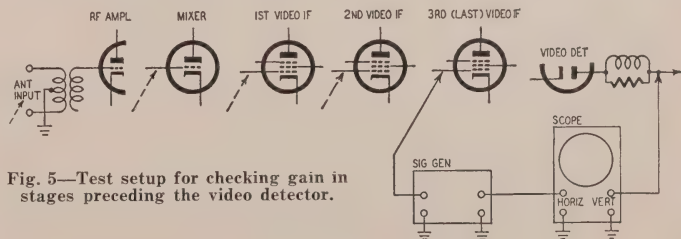

Fig. 5—Test setup for checking gain in stages preceding the video detector.
3. **Gain checks with a sweep signal generator and oscilloscope** When a fault is located to the video section before the video detector, it can be further localized by gain checks with a sweep generator and oscilloscope. Turn set to a blank channel and disconnect the antenna lead-in from the antenna terminals. The scope is left at the detector load throughout the series of checks (Fig. 5).